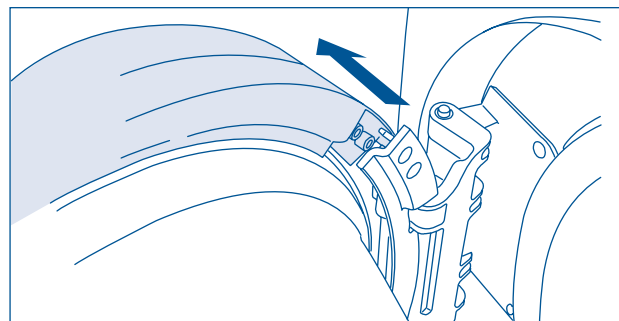

Figure 4-4.
3. While supporting the weight of the door with both hands, separate the door from the hinge. (See Figure 4-4)